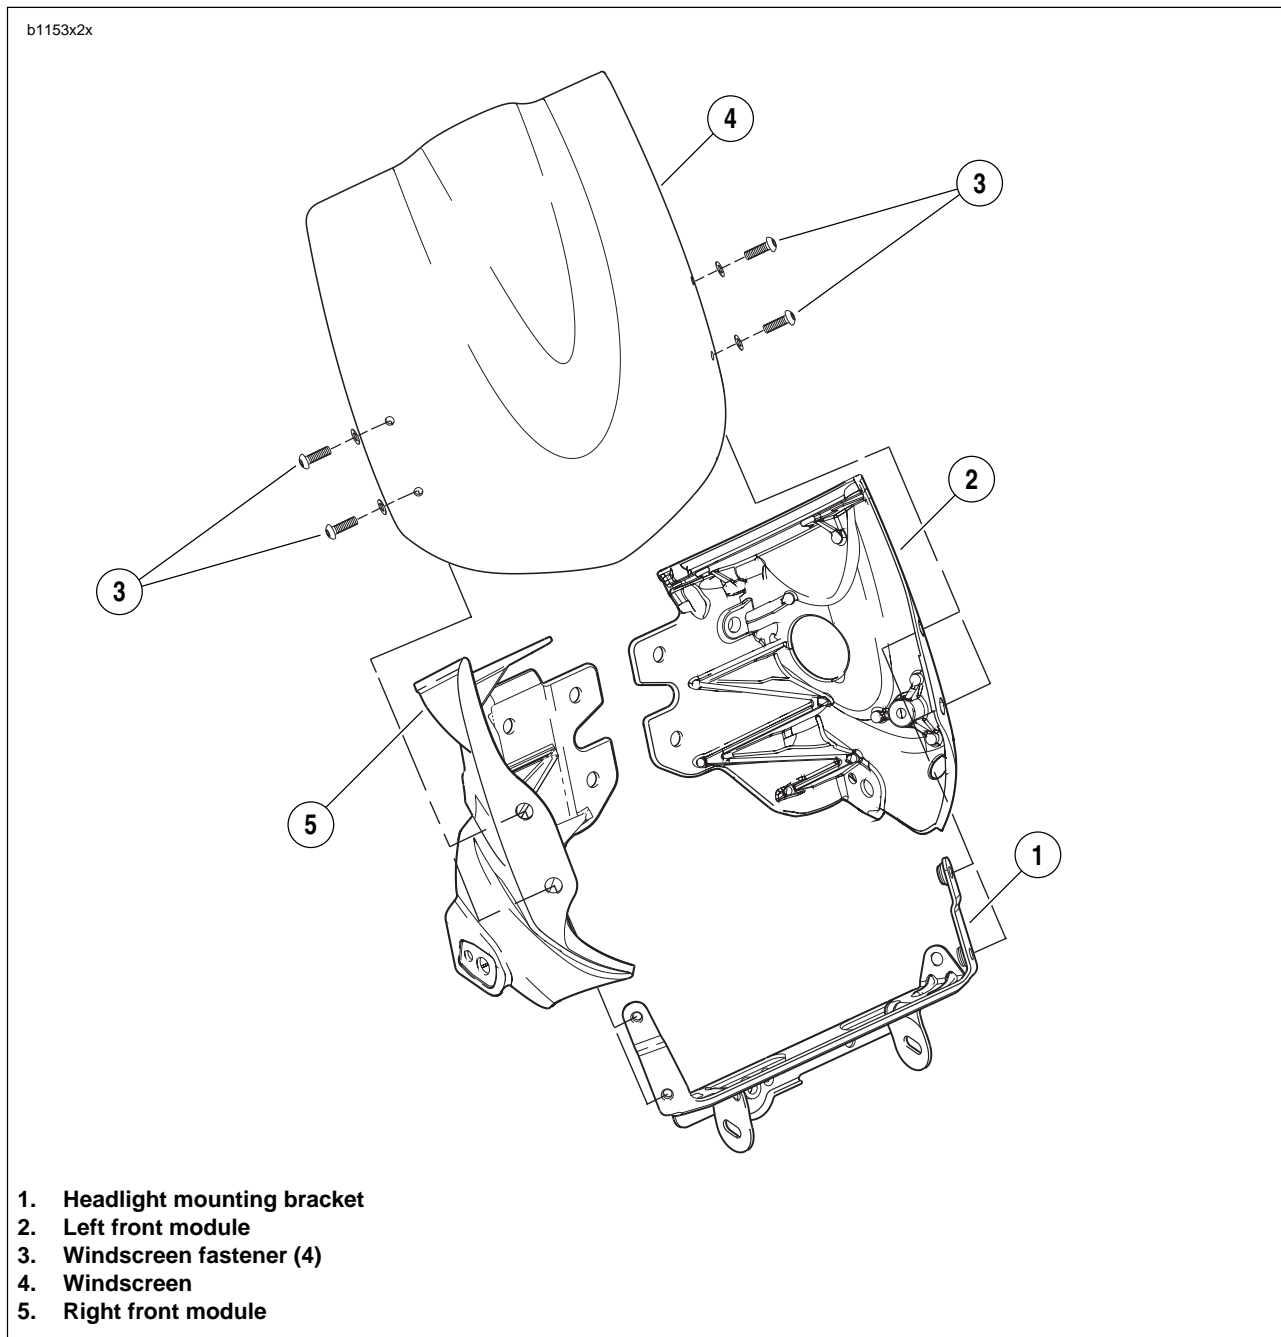

Figure 2-124. Front Windscreen
1. See Figure 2-124. Remove four windscreen fasteners (3).
2. Remove windscreen (4).
1. See Figure 2-124. Position windscreen (4) onto left and right front modules (2, 5).
2. Install four fasteners (3) and tighten to 10-12 **in-lbs** (1.1-1.4 Nm).